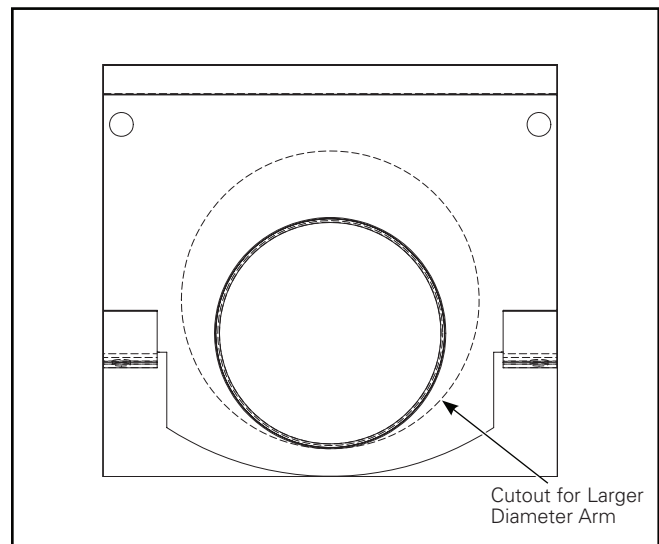

Figure 3.
**Note:** A bird guard is provided pre-cut to accommodate 1-1/2" diameter mounting arms. When using larger diameter mounting arms, remove the punch out section of the bird guard. (Figure 3)